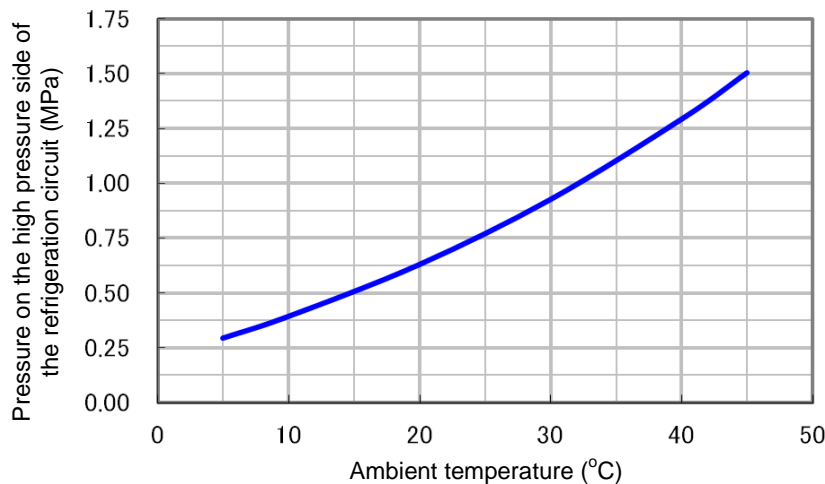

Fig. 3.3-14 Ambient temperature and refrigerant circuit pressure
- (1) Measure the ambient temperature (room temperature).
- (2) Check the pressure shown for "Ph: Refrigerant circuit pressure on the high pressure side" in the "Check Monitor Menu" of the Thermo-Chiller.
- (3) If the measured point is lower than the values shown in the graph in "Fig. 3.3-14: Ambient temperature and refrigerant circuit pressure", it means there is refrigerant leakage caused.